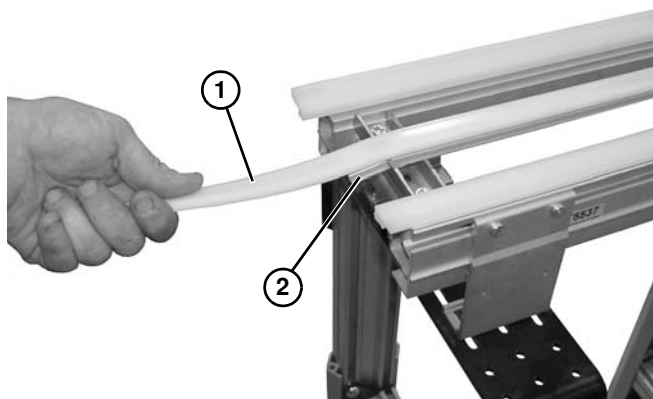

Figure 68
2. Slide center rail (**Figure 68, item 1**) from frame assembly (**Figure 68, item 2**).